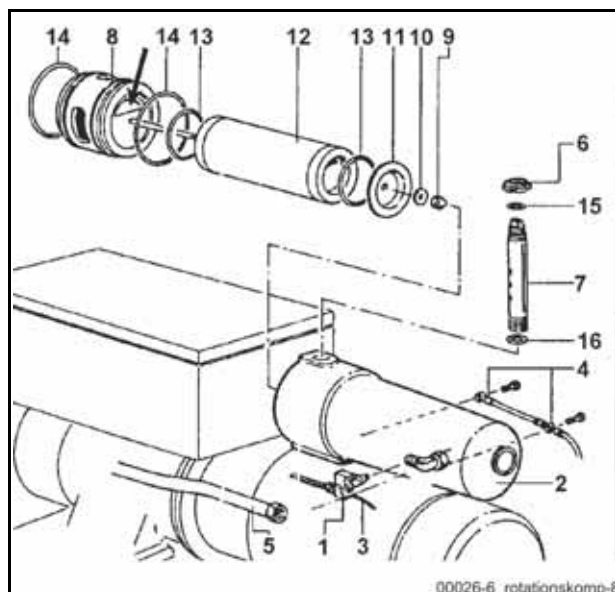

Fig. 385 Oil separator cartridge
- Disconnect the plug for the solenoid valve (1) on the separator housing (2) (Fig. 385) and loosen the air hose (3).
- Loosen the oil return valve (4) as described above.
- Remove the compressed air tube (5) from the separator housing.
- Remove the radial groove nut (6).